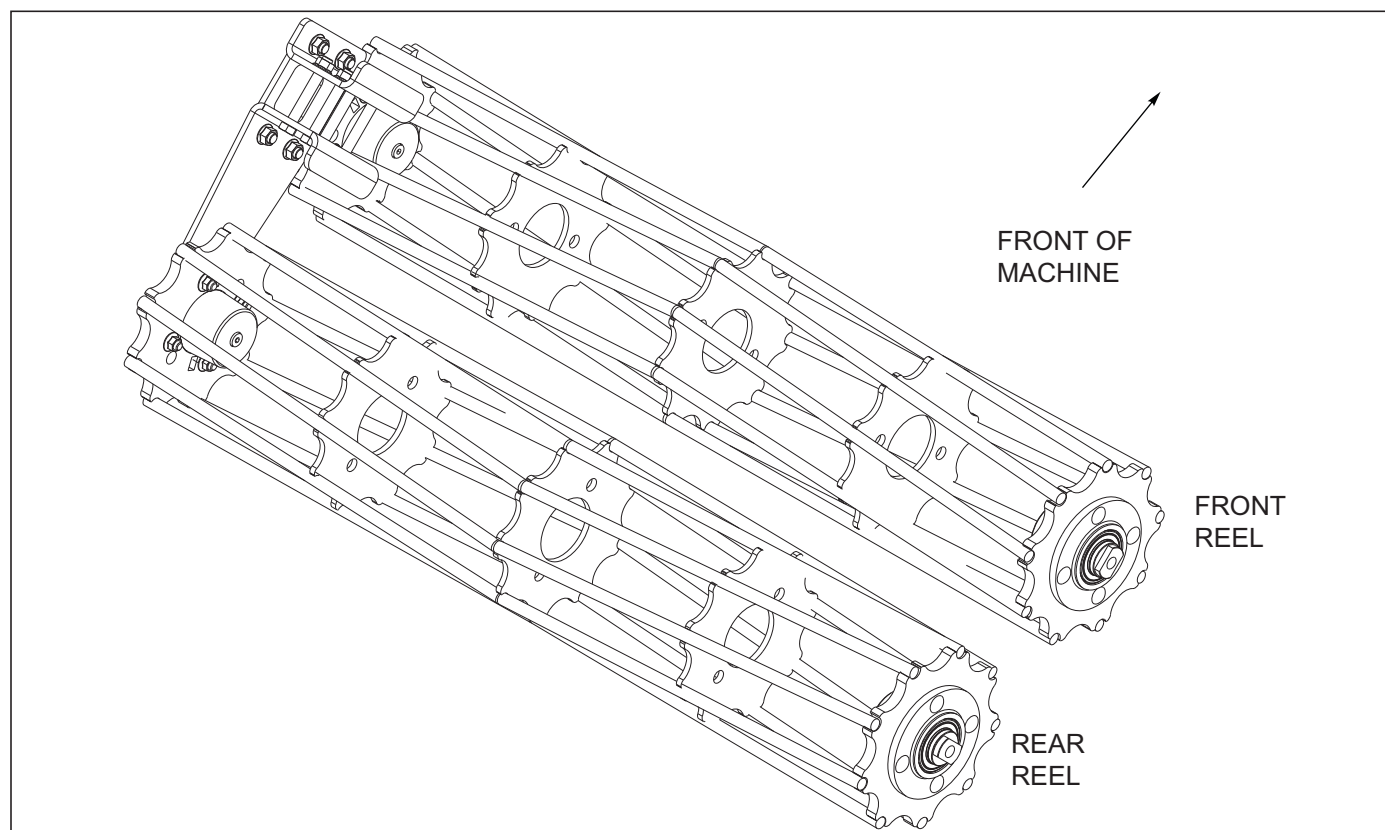

Figure 3-35: 3RS DBL Conditioner Reel Installation
4. Attach conditioner reels with front and rear reel angled blades as shown **See Figure 3-35**.
Conditioner reels are shipped with the front and rear chevron reels in opposing directions **See Figure 3-35**.